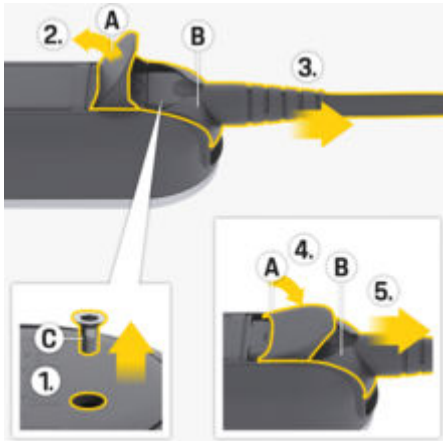

Fig. 13: Disconnecting the supply cable
1. Remove screw **C** (Fig. 13) using a suitable tool.
2. Fully open cover **A** (Fig. 13).
3. Pull out plug **B** (Fig. 13) until you feel initial resistance.
4. Close cover **A** (Fig. 13) to around 15 degrees (the cover can rest on plug **B** (Fig. 13)).
5. Pull out plug **B** (Fig. 13) fully.